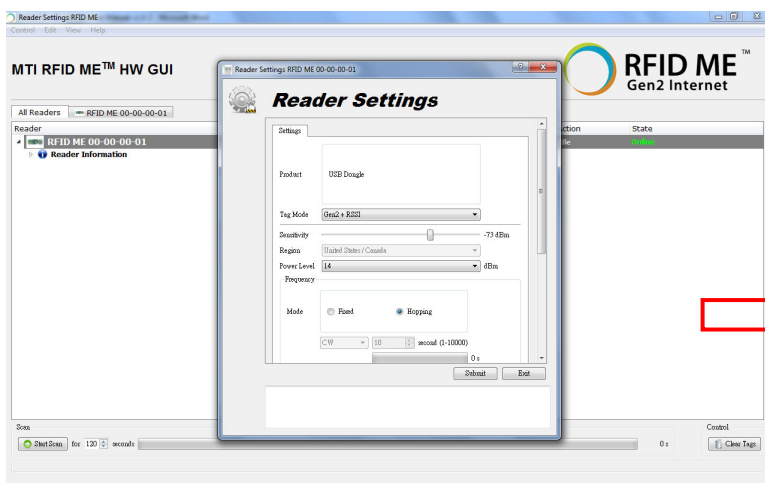

Figure 13
- Hopping : Offered for the majority of customers as shown in Figure 13.